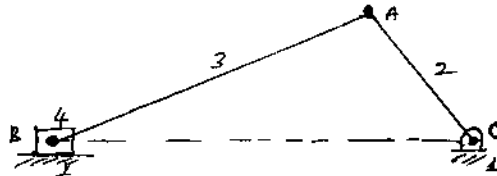

Fig. Q4(a)
- 4 a. In a slider crank mechanism shown in Fig.Q4(a) the crank $OA = 300$ mm and the connecting rod $AB = 1200$ mm the crank OA is turned 30° from the inner dead centre. Locate all the instantaneous centres. If the crank rotates at 15 rad/sec clockwise, find: